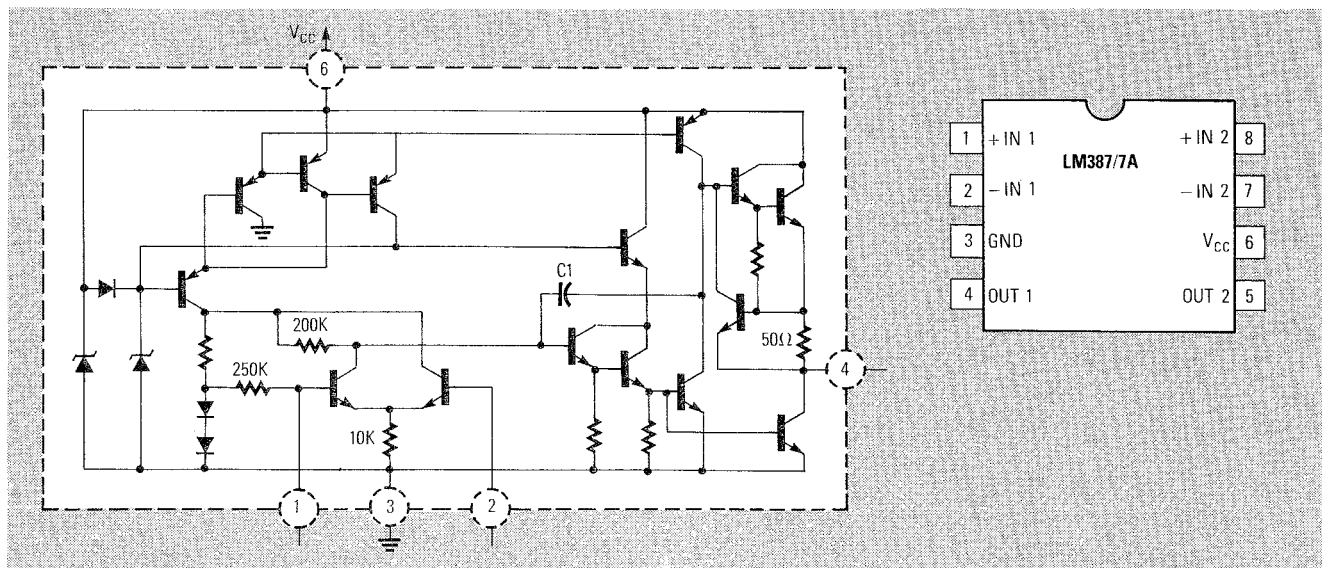

FIG. 4—THE LM387/7A DUAL LOW-NOISE PREAMP.
- The LM387 and LM387A, shown in Fig. 4, are utility versions of the LM381/1A, with only the input and output terminals accessible, and no provision for external compensation or single-ended operation.